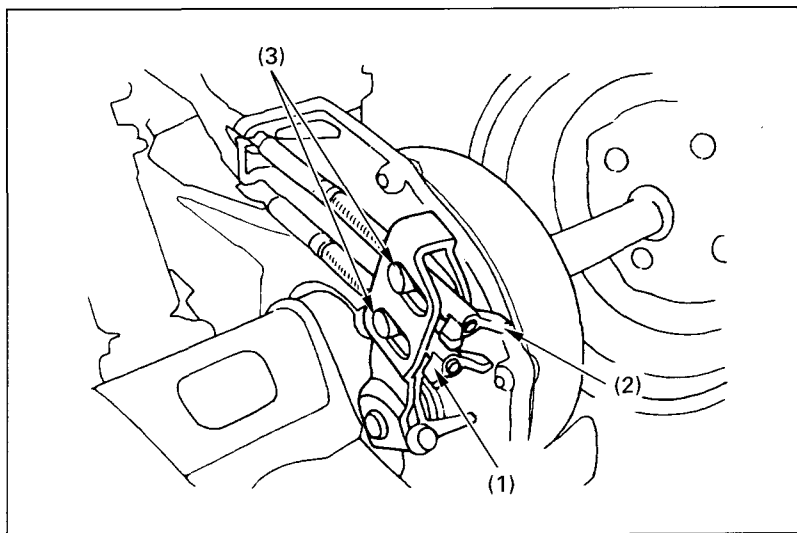

Fig. 4-29 (1) Brake pedal adjusting nut (3) Brake arm pins
(1) Rear brake pedal
To adjust the free play, turn the brake pedal adjusting nut (1), (Fig. 4-29), located on the brake operating rod at the rear of the frame. Make sure the cut-out on the adjusting nut is properly seated on the brake arm pin (3).
To adjust the free play, turn the brake lever adjusting nut (2), (Fig. 4-29), located on the brake operating rod at the rear of the frame. Make sure the cut-out on the adjusting nut is properly seated on the brake arm pin (3).